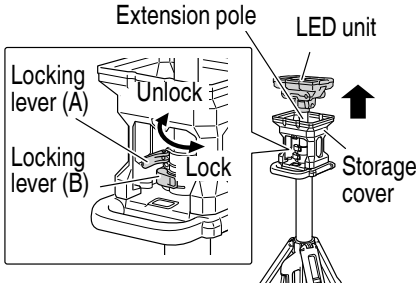

Fig. 11
- Release the locking lever (A) as shown in the diagram, raise the LED unit approximately 12" (30 cm), then lock the locking lever (A) in place again. Now adjust the lens angle. (Figs. 11, 12)